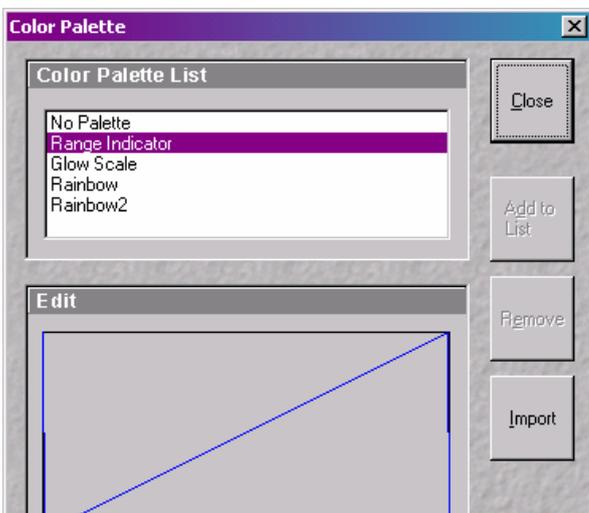

Fig. 30 Color Palette window
- In the **Color Palette List** panel, click on the **Range Indicator** item (Fig. 30).